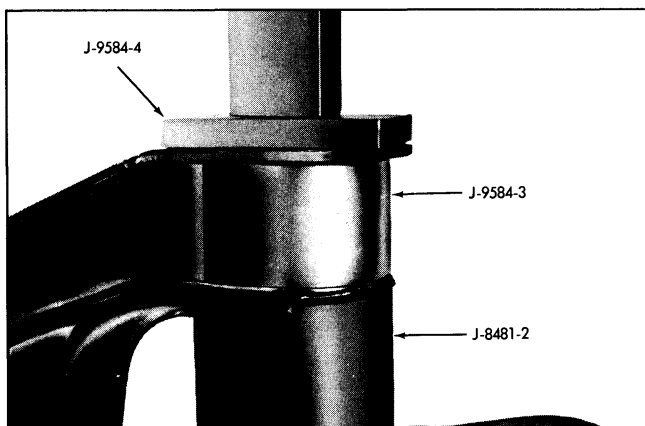

Fig. 3-26 Installing Bushing in Control Arm
3. Install new bushing in control arm using the arrangement of tools as shown in Fig. 3-26.